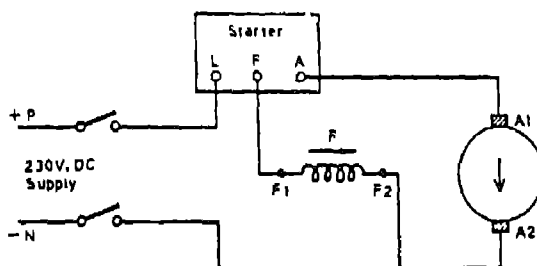

Fig. 18.1: D C. Shunt motor rotation
In order to run and operate a DC shunt motor it is connected to the mains through a starter as shown in Fig 18.1. On starting, it picks up speed and runs in the normal direction.
- (i) Connect the motor as shown in Fig. 18.1